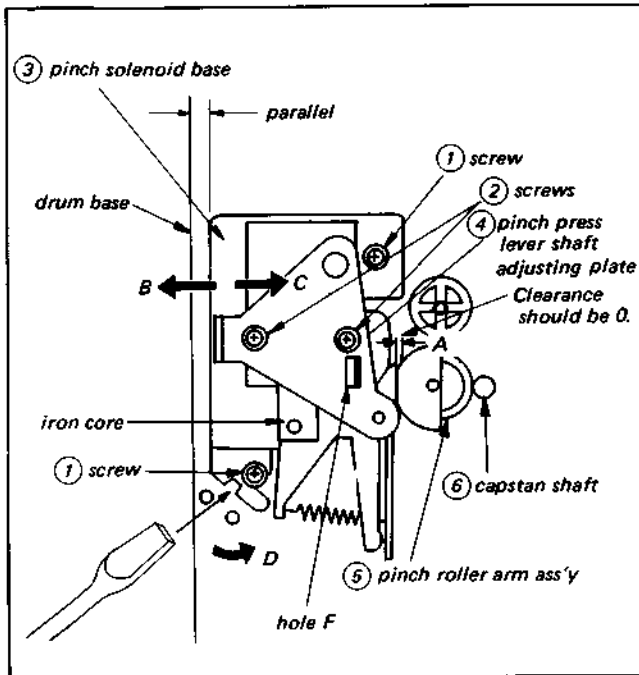

Fig. 3-32. Position adjustment of pinch roller solenoid
3. Loosen the two screws ① fastening the pinch solenoid base ③ shown in Fig. 3-32 and tighten screws ① when the pinch solenoid base ③ becomes parallel to the drum base.
4. Loosen two screws ② shown in Fig. 3-32 by 1/3 to 1/2 turn and move pinch press lever shaft adjusting plate ④ in the direction shown by arrow B.
5. Insert a standard blade-tip screwdriver into hole F when the iron core is pulled slightly and pinch roller arm assembly ⑤ touches capstan shaft ⑥ equally along the complete length of the pinch roller. The pinch roller and the capstan should be parallel. Move the pinch press lever shaft adjusting plate ④ in the direction shown by arrow C and tighten the two screws ② when clearance A becomes 0.
**Note:** If the pinch roller arm assembly ⑤ does not touch the capstan with parallel and equally force when the iron core is pulled slightly, move pinch solenoid base ③ with a standard blade-tip screwdriver in the direction shown by arrow D.